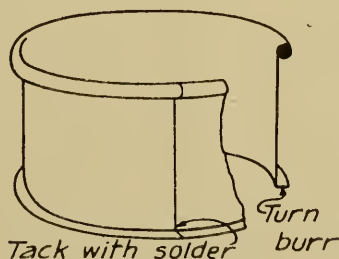

FIG. 4.
9. Turn $\frac{1}{8}$ " burr on bottom and tack seam with solder near bottom to keep seam from slipping apart. (Fig. 4.)
16. Bend top piece to place using cornice brake and pliers. (See instructor.) (Fig. 4).
17. Rivet top piece to sides. (Fig. 4).
18. Make handle like pattern and rivet in place. (Fig. 4).